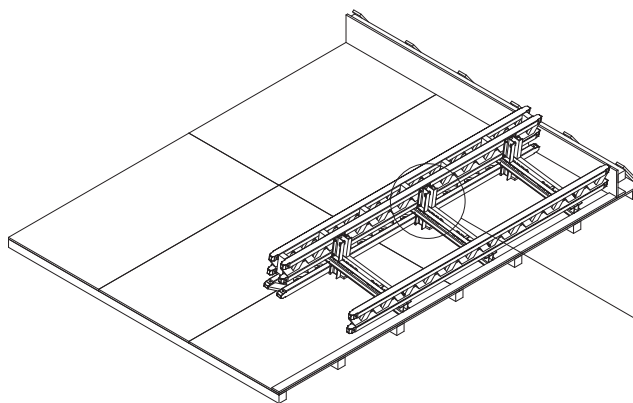

Fig. A2.05
5. Position additional girders, use screw clamps to hold in position and secure by means of Fix Straps U100 – U120. Install spacers between the pairs of girders. (Fig. A2.05)